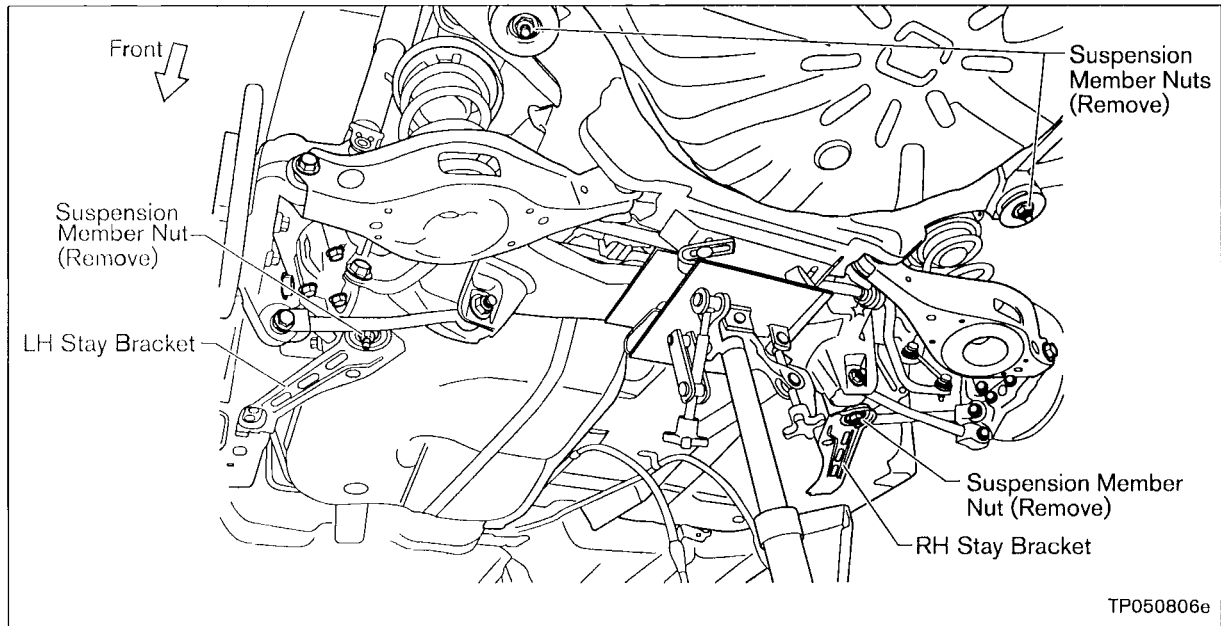

Figure A18
11. Remove the four main suspension member mounting nuts and the LH/RH stay brackets (see Figure A18).